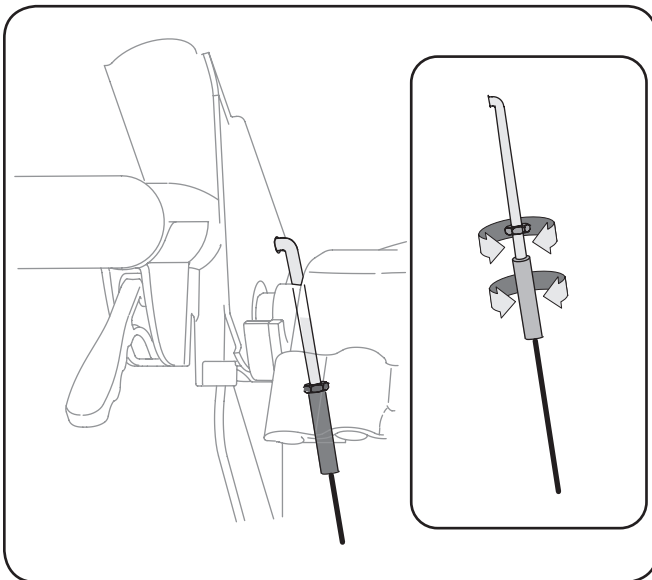

Figure 3-14
8. Thread the ferrule without turning the cable onto the “Z” fitting until there is no slack in the cable. See Figure 3-14. Do not overtighten the cable. Hold the flats on the ferrule with pliers and tighten the jam nut against the ferrule.